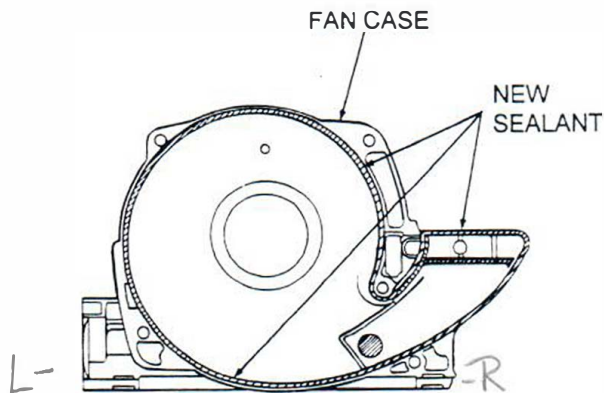

Figure 10. Fan Case Sealant Application
6. Prior to the re-assembly of fan case, clean old sealant from joining surfaces and apply new silicone sealant, P/N T117 or T118 as shown in Figure 10.